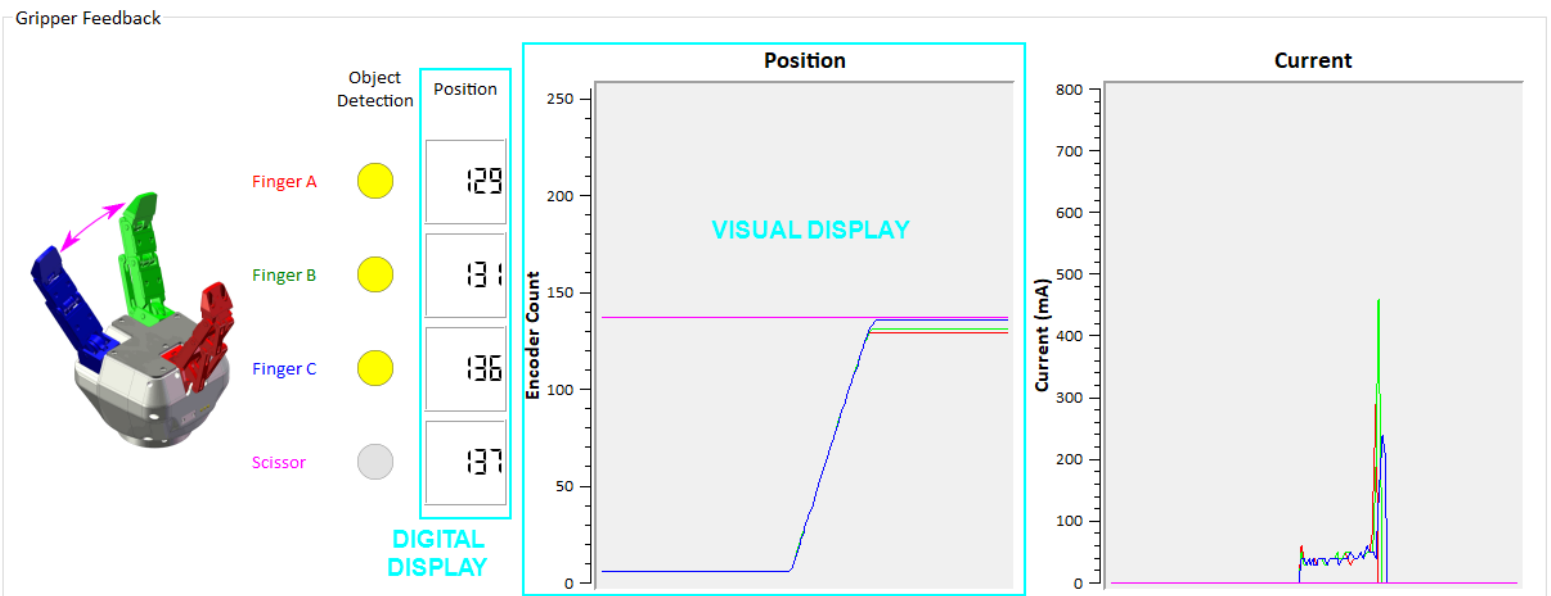

Fig. 5-5: Digital and visual displays of the finger positions and electrical current usage.
- **Current** (graphic): The "Current" graph shows the amount of current going through each motor. Each axis has an associated color (see Fig. 5-5:).